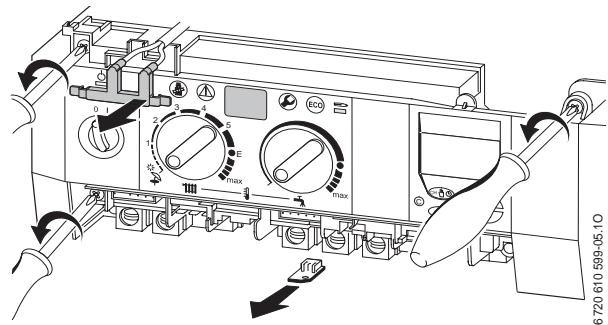

Fig. 57
- ▶ Remove two fixing screws from the control box. Refer to fig. 57.